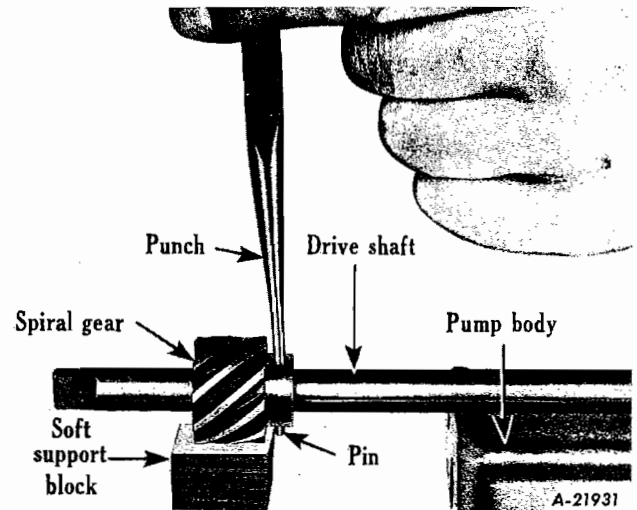

Fig. 47
4. Support oil pump shaft to prevent bending shaft, and using a small punch, drive out spiral gear pin from oil pump spiral gear (Fig. 47).